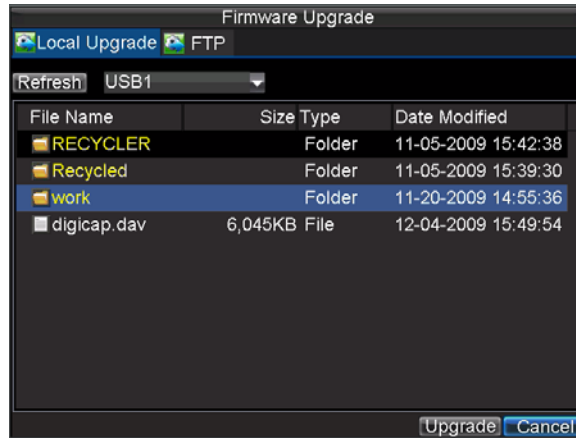

Figure 11. Firmware Update Menu
2. Click Menu > Maintenance > Upgrade to enter the Firmware Update menu, shown in Figure 11.